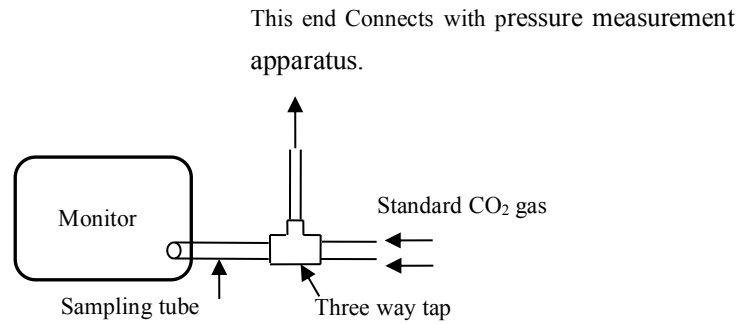

Fig.5-7-4 Gain calibration sketch map
3. Please connect the adjusting device according to Fig.5-7-4. While the standard gas of pressure CO₂ 5.0% (38.0mmHg) getting across the sampling tube, observe pressure measuring apparatus carefully to ensure that the pressure of standard gas is one standard atmosphere (the range of error is ±5%). Then select **<Menu>**→**<Monitor Setup>** → **<System Setup>**→**<Machine>** , press the **<CO₂ GAIN CAL>**,and input **5%** in the popped up window. Select**<OK>**to start gain calibration. About 5 seconds later, the reading having calibrated will be shown in the screen.